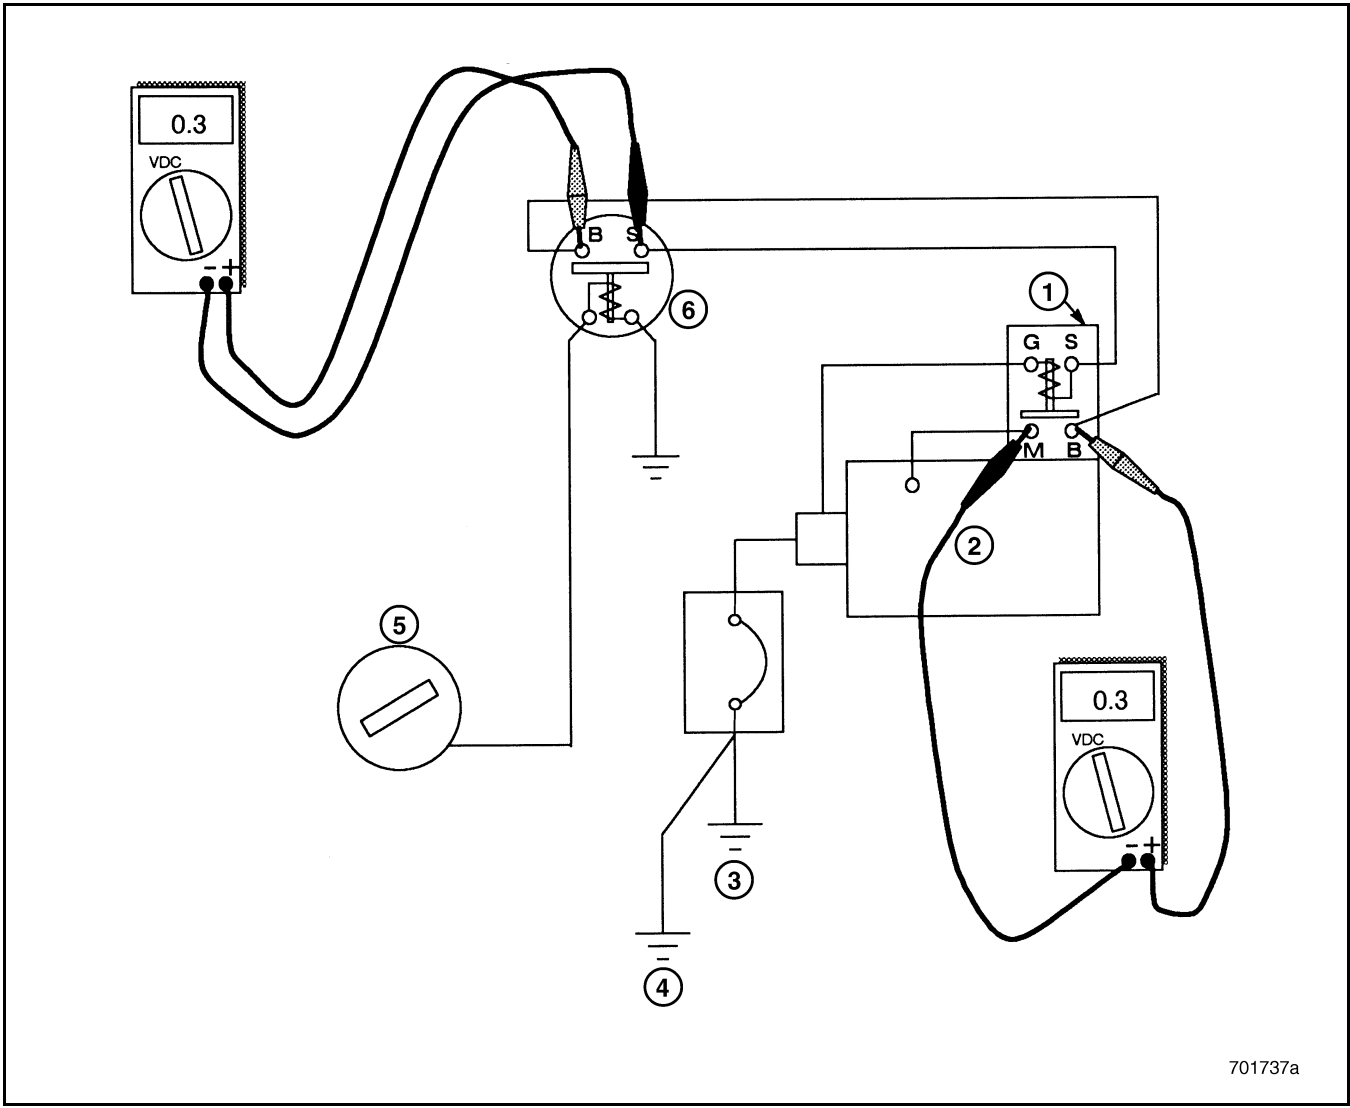

Figure 61 — Checking Voltage Drop
2. Connect the positive (+) lead to the starter solenoid B terminal and the negative (-) lead to the starter solenoid M terminal as shown in Figure 61.
5. Move the meter leads to the starter relay B and S terminals as shown in Figure 61.